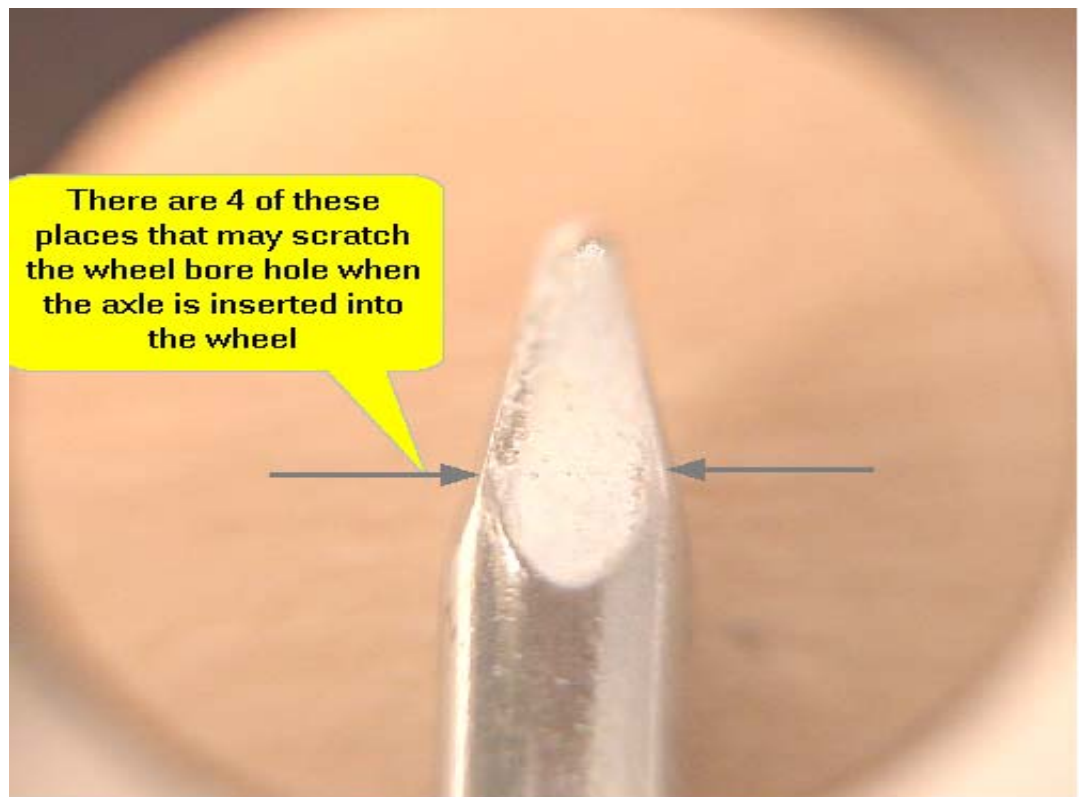

Figure 3 - Magnified view of an axle from a BSA kit showing the sharp raised edges that may scratch the inner wheel bore surface.
- In **Fig. 3** you can see 4 places where the chisel point stamping during manufacture raised opposite sharp edges are farther apart (about 0.093") than the shaft diameter itself (which is about 0.089"), and can get close to the bore diameter (about 0.094 to 0.095"). Thus the act of inserting an axle through the bore could damage the bore surface.